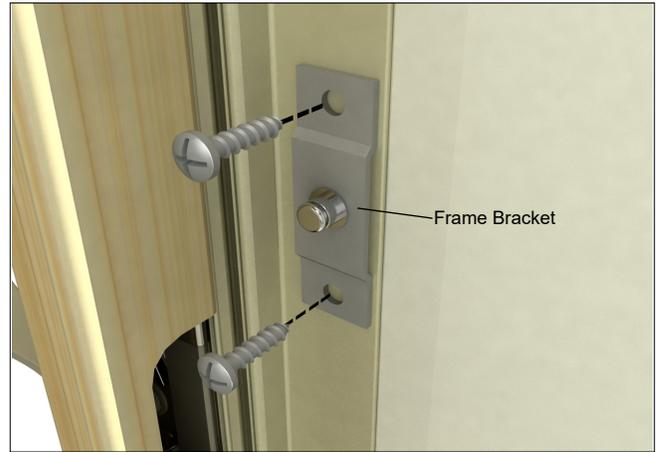

Figure 12 Fasten the frame bracket to the frame.
- Using the measurements obtained from step 2, fasten the frame bracket using #8x11/16" screws provided. See figure 12.